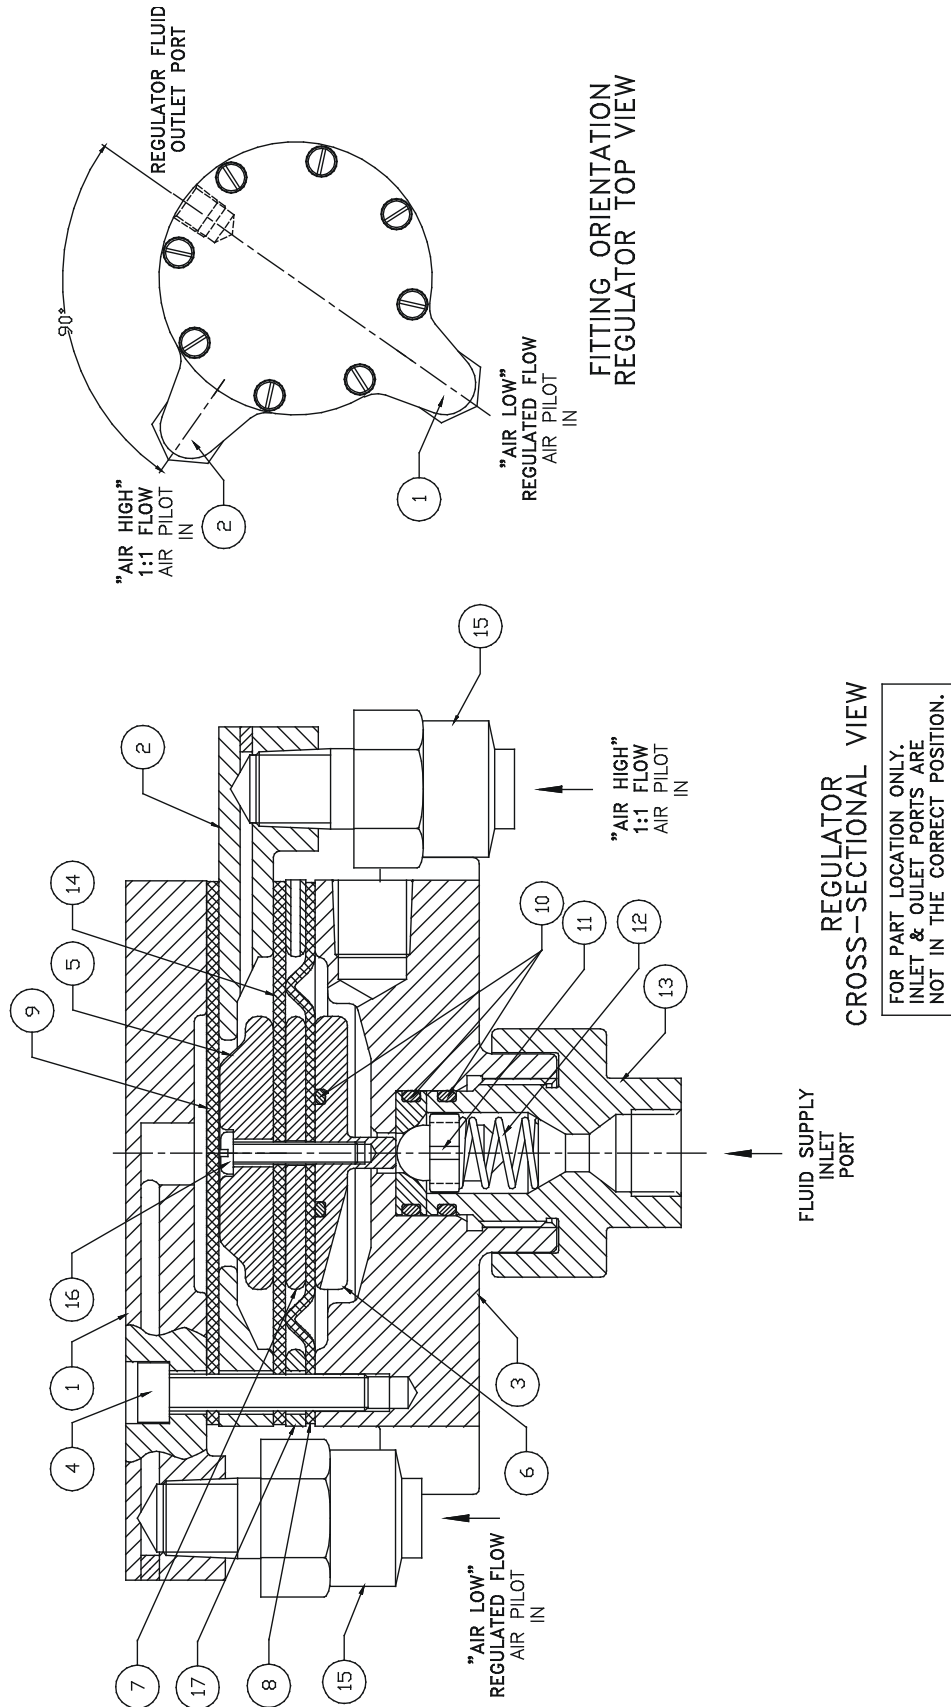

Figure 1: Regulator Cross-Sectional View
## DISASSEMBLY PROCEDURES (Refer to Figure 1)
## ASSEMBLY PROCEDURES (Refer to Figure 1)
11. Place Item 2 (spacer ring) on the top of the diaphragm assembly with largest opening facing "DOWN". Rotate the spacer ring, without rotating the diaphragm assembly, so that the inlet port of the spacer ring is 90° to the outlet port on the lower housing and all the clearance holes are aligned (see Figure 1).
## TEST PROCEDURES (Refer to Figure 1)
**(Figures 1 and 3)**
DR-1 PLASTIC FLUID REGULATOR - PARTS LIST (Cont.) (Figures 1 and 3)